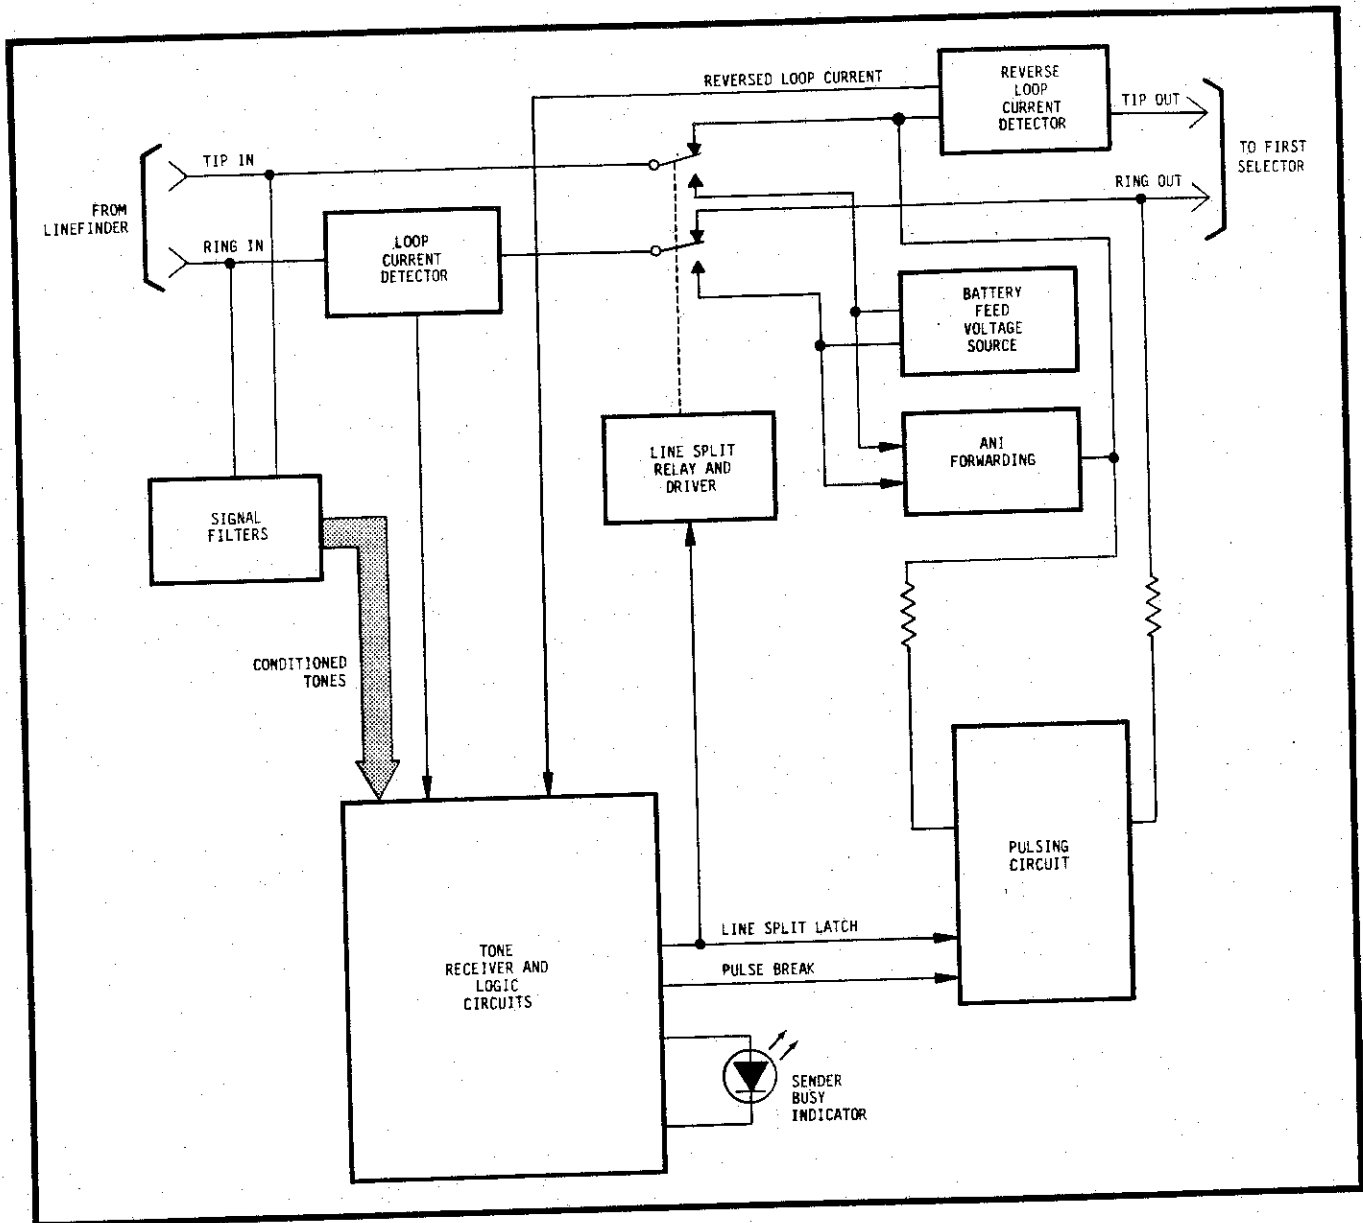

Figure 7 Simplified Block Diagram
**5.01** To assist maintenance and troubleshooting, this description follows a call as it is handled by the M-168 (see Figure 7).